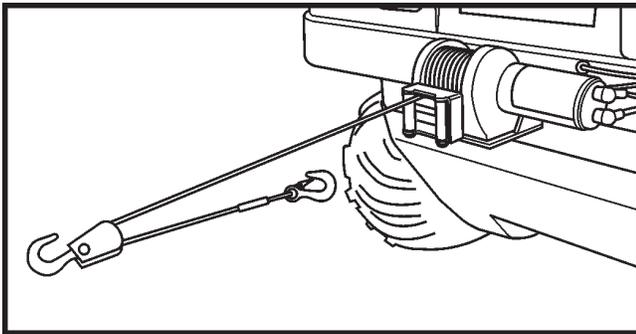

Figure 11-7. Double Line.
1. The winch is rated at 3,500 pounds (single-line) capacity. **DO NOT OVERLOAD. DO NOT ATTEMPT PROLONGED PULLS AT HEAVY LOADS. DO NOT MAINTAIN POWER TO THE WINCH IF THE MOTOR STALLS.** Overloads can damage the winch and/or the wire rope and create unsafe operating conditions. For heavy loads, we recommend the use of the optional pulley block and hook assembly (Warn Part No. 28881 or Superwinch Part No.1503) to double line the wire rope. (Figure 11-7) This reduces the load on the winch and the strain on the wire rope by approximately 50%.